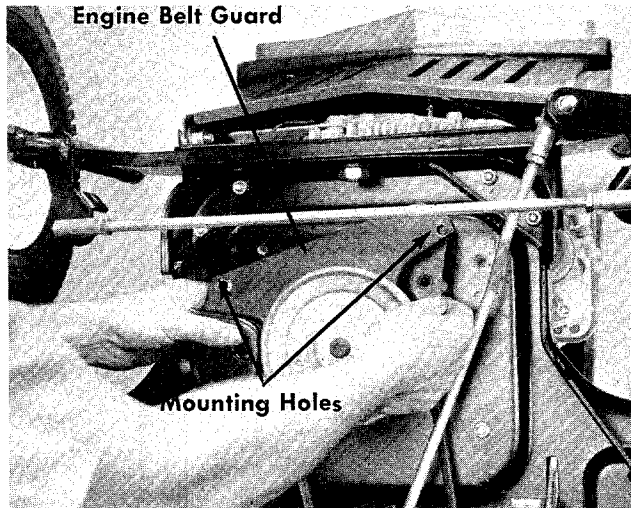

FIGURE 27. BELT GUARD REMOVAL
- a. Remove the entire belt guard from the engine pulley by removing the two front engine bolts. See figure 27.